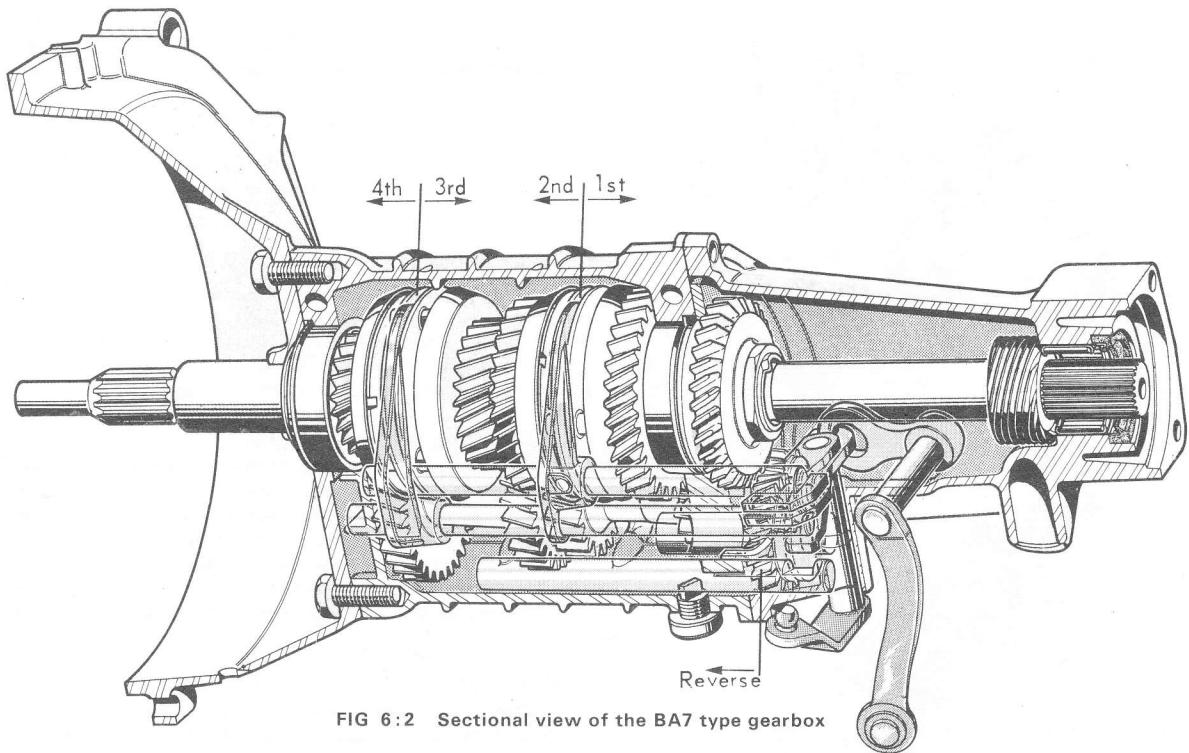

FIG 6:2 Sectional view of the BA7 type gearbox
- 8 Extract the reverse gearshaft lock screw and remove the shaft, reverse idler and gear and washers (see **FIG 6:5**).
12 Using a mallet, drive the mainshaft carefully out to the rear of the gearbox, collecting the components as they become free in the following order: 4th speed synchronizer and cone, 3rd speed gear and bushing, 2nd and 3rd speed synchronizer and hub and 2nd speed gear. The mainshaft and its components can be seen in **FIG 6:6**.